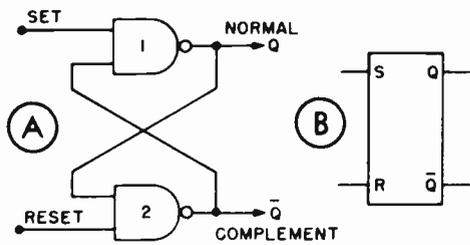
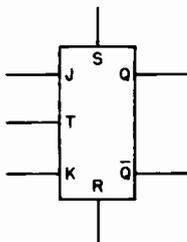

Fig. 3. NAND gate flip-flop (A) and RS flip-flop logic symbol (B).
Fig. 6. Symbol for a JK flip-flop.
Fig. 6 shows how deficiencies in amplifier performance will affect the waveform. If the amplifier has tone controls, you can vary them to produce some of these effects. Rotating the treble control,
Fig. 6. Typical waveforms. (A) perfect response, (B) low-frequency phase shift — leading (bass cut), (C) loss at fundamental frequency, (D) boost at fundamental frequency, (E) low-frequency phase shift — lagging (bass boost), (F) moderate loss of highs, (G) severe loss of highs, (H) excessive highs, (I) ringing due to instability, (J) thickening of trace due to hum pickup or oscillation.
shown in Fig. 6. Since most JK flip-flops exist as integrated circuits, all you really need to know is how the outputs of the flip-flop respond to the various combinations of signal inputs.
The S and R inputs on the JK flip-flop in Fig. 6 are the direct set and direct reset inputs. These inputs and the flip-flop outputs perform exactly as the latch shown in Fig. 3.
The truth table in Fig. 7A summarizes the operation of the JK flip-flop using the S and R inputs. Therefore, this truth table can also be used to define the operation of the latch in Fig. 3. On the left side of